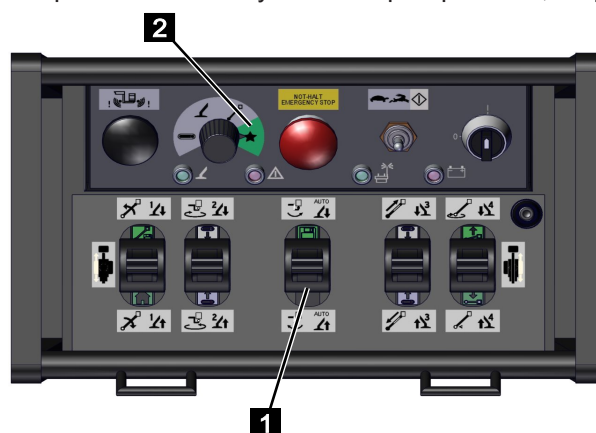

Fig. 151
3. Set the function selector on the radio control to *[special function]* (green) (Fig.151/2).
4. Pull the control lever (Fig.151/1) back and hold it there until the outriggers have retracted.